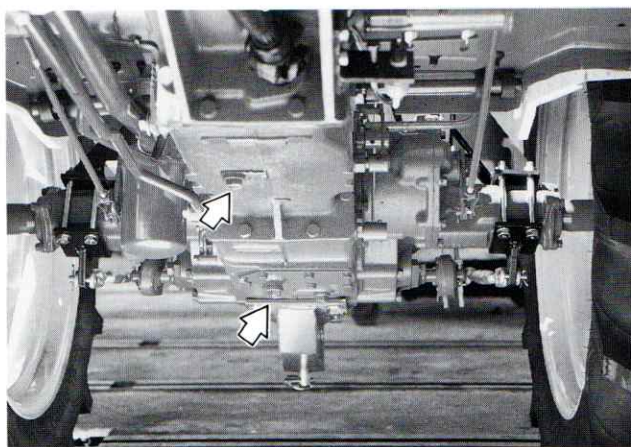

Figure 42 — Transmission, Rear Axle Center Housing and Rear Axle Oil Drain Plugs
1. With the oil at normal operating temperature, drain the oil by removing the transmission and rear axle drain plugs, Figure 42. Reinstall the plugs after the oil has drained. Discard the oil.